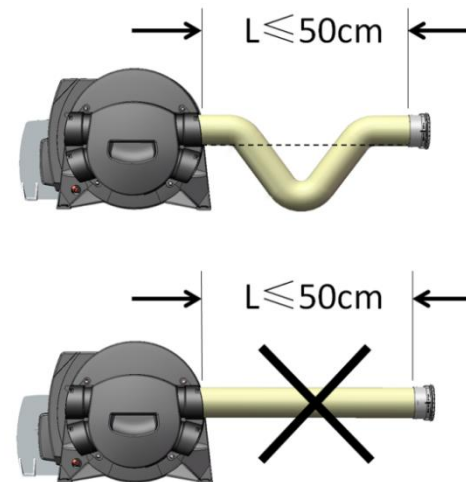

Figure 12
3. When the length of the warm air pipe is less than 50 cm, the warm air pipe must be folded into a "U" shape and cannot be straightened. As shown in Figure 12.